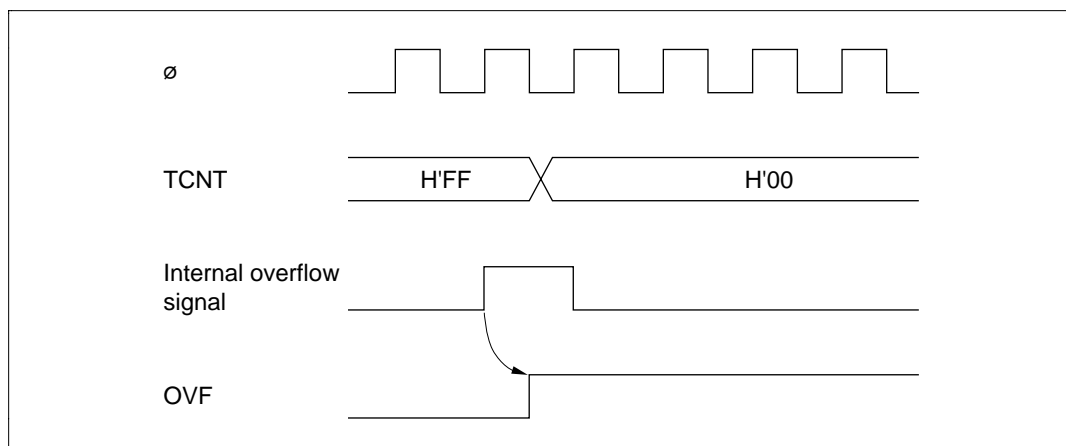

Figure 10-8 Setting of Overflow Flag
(1) Setting of TCSR Overflow Flag (OVF): The overflow flag (OVF) is set to 1 when the timer count overflows (changes from H'FF to H'00). Figure 10-8 shows the timing of this operation.